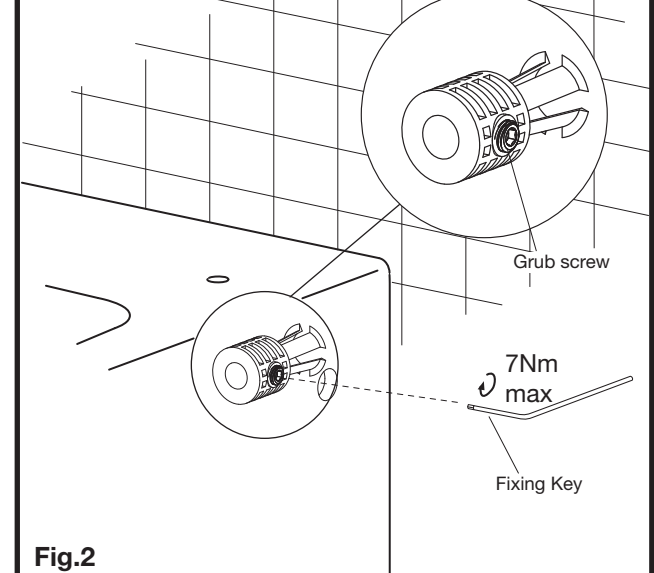

Fig.2
- 9- Fit the plastic fixing bushes into the holes provided with the grub screw facing the fixing holes in the side of the pan, as detailed in **Fig. 2**.